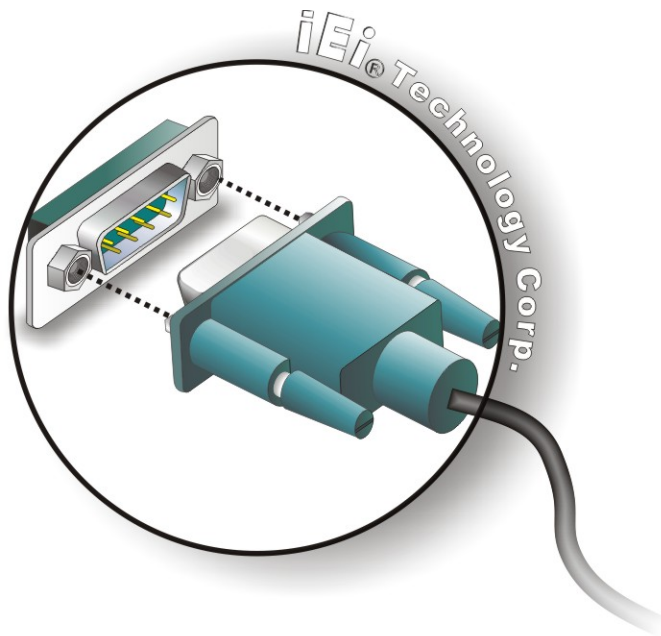

Figure 3-21: Serial Device Connector
Step 2: Insert the serial connector. Insert the DB-9 connector of a serial device into the DB-9 connector on the bottom panel. See **Figure 3-21**.